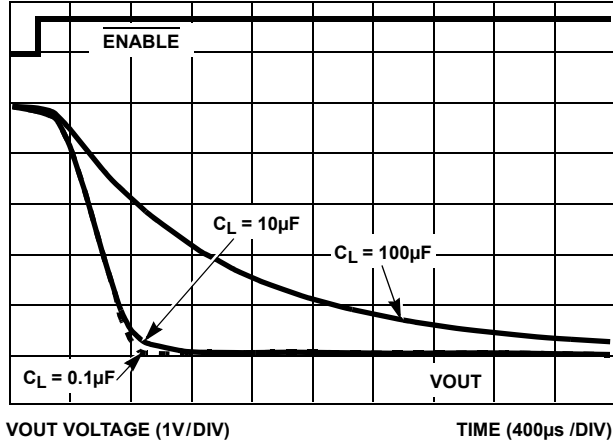

FIGURE 8. SLOW TURN -OFF vs  $C_{LOAD}$ ,  $R_I = 10\Omega$
The ISL6119 has two shutdown modes. When turned off with a load current less than the current regulation (CR) level the ISL6119 shuts down in a controlled manner using a 500nA constant current source controlled ramp. When latched off due to CR and the timer has expired, the ISL6119 quickly pulls down the output thereby quickly removing the faulted load from the voltage bus. See Figures 8 and 9 for waveforms of each mode.